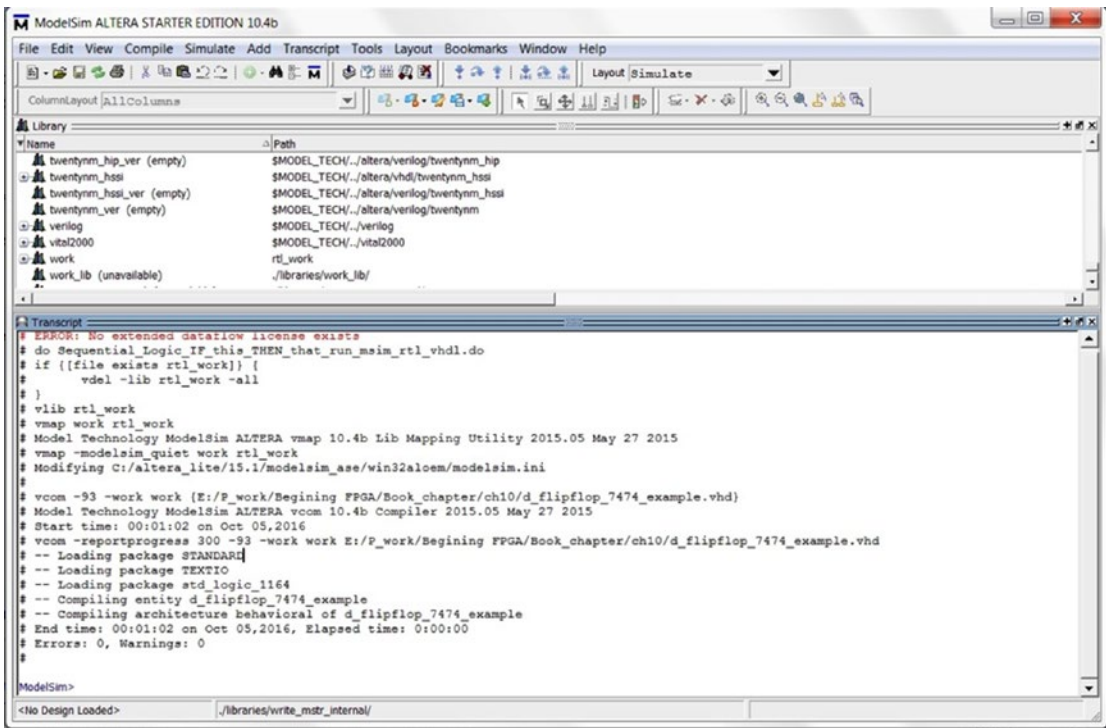

Figure 10-2. ModelSim bring up by Quartus Prime
In this chapter we use script to simulate most of the design. Following are the steps for getting the result in Figure 10-2. You can use step 1 to add all of the example design from this chapter to the same Quartus project and use step 2 to switch the design as top level for simulation.
3. Running ModelSim from Quartus Prime. **Click** Tools ► **Click** Run Simulation Tool ► **Click** Run RTL Simulation. Figure 10-2 shows the result. There is the error of “No extended dataflow license exists.” It is because we are using the free version of the ModelSim. It does not affect our simulation.